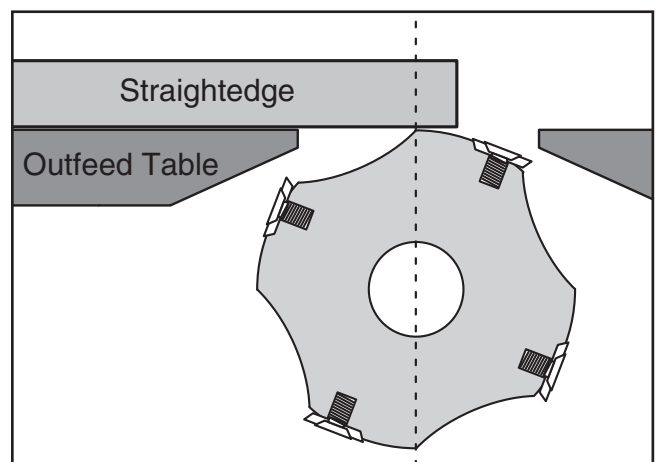

Figure 6. Checking cutterhead parallelism.
- Using the straightedge and feeler gauge set, inspect the cutterhead parallelism with the outfeed table as shown in **Figure 6**. With the straightedge in position, raise or lower the outfeed table until the cutterhead body (not the carbide insert) just touches the straightedge.